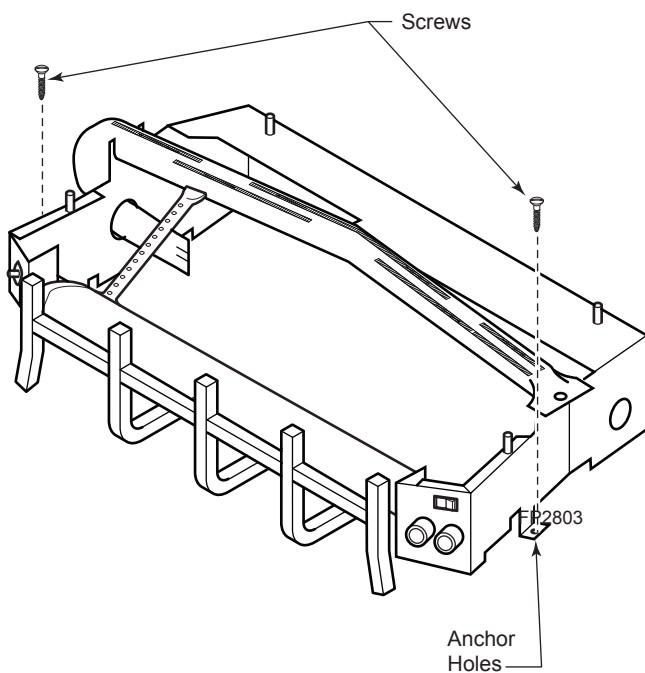

Figure 14 - Secure Heater to Floor of Fireplace or Firebox
2. Anchor holes are located on the right and left sides of the unit. After centering the grate correctly, mark the hole positions on the fireplace/firebox floor. Drill two (2) 5/32" diameter holes approximately 1 1/2" deep.
3. Anchor the grate to the fireplace/firebox floor using the screws provided. *Figure 14*